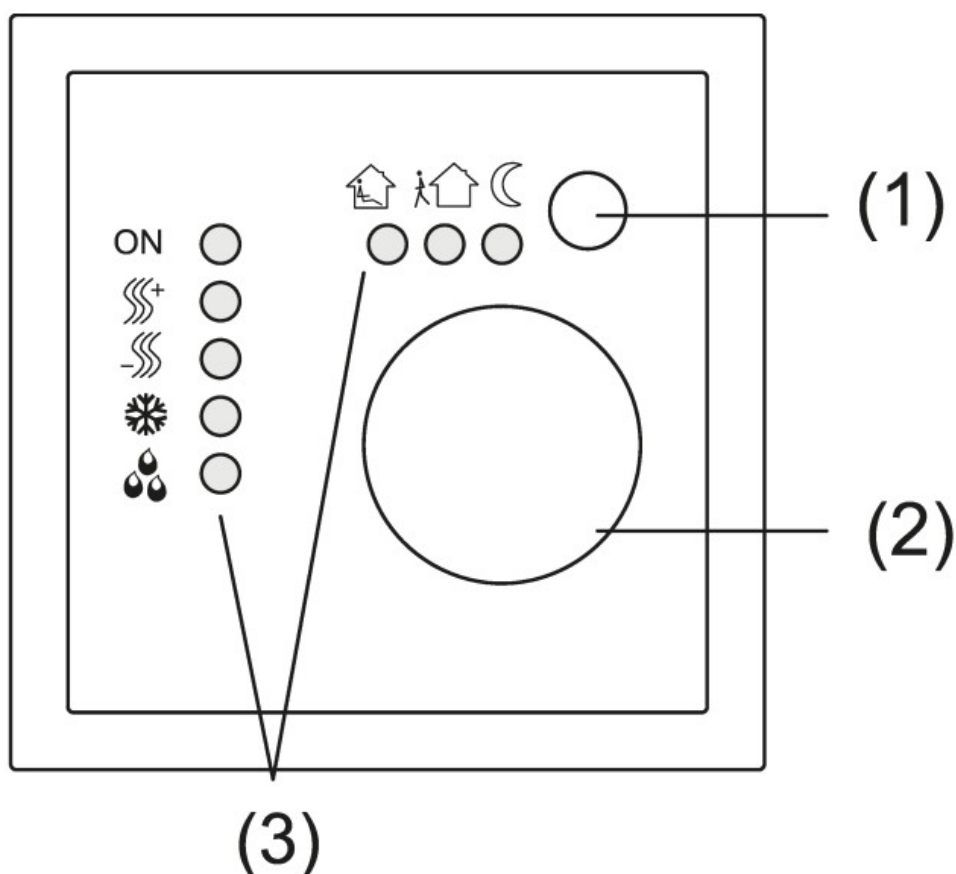

Figure 1: Controls and indicators
The controller compares the current room temperature with the setpoint temperature and controls the heating and cooling devices according to the current demand. The setpoint temperature is determined by the set operating mode and can be varied with the adjustment dial (2). The selected operating mode and the current controller status are indicated by the status LED (3) (see figure 1).
The new operating mode is indicated by the status LED (3) (see fig. 1).
Press the presence button (1) (see Fig. 1).